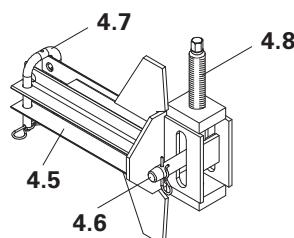

Fig. B2.09
2. Fix Connector TRIO-CB (4.5) to panel struts with bail pin Ø 25 (4.7), see plans for arrangement. Centre distance = bracket spacing. By changing the mounting position of the adjusting spindle (4.8), the Connector TRIO-CB can be used cantilevering on the left or right. (Fig. B2.09 + B2.10)